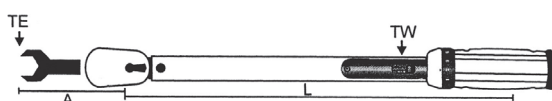

Fig. 4
- When extensions or adapters are used, the torque value changes. An extension increases the effective length of the tool. The new torque performance of the wrench may be calculated with the following formula: $TW=(TE \cdot L)/(L+A)$. (Fig. 4)